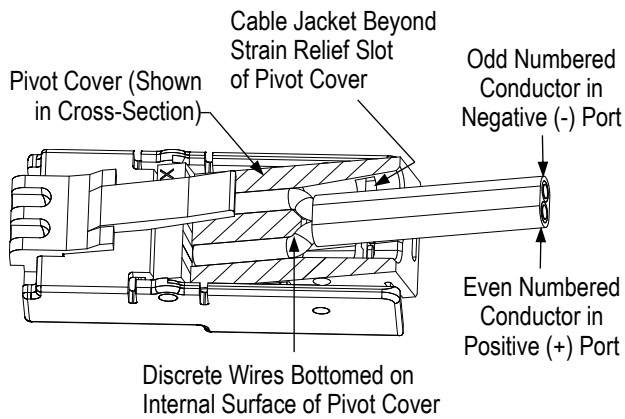

Figure 3
- Insert the cable jacket beyond the strain relief slot of the pivot cover, ensuring that the discrete wires are bottomed on the internal surface of the pivot cover. Refer to Figure 3.